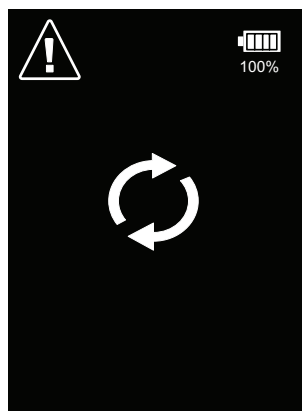

Fig. 16: Sensor clearing message display
straight off the socket (see Fig. 16). Do not twist the sensor while removing.
- Reseat the sensor by aligning the keyway notch in the sensor with the raised keyway on the sensor socket holder (see Fig. 16).
- Remove the old sensor by pulling the sensor straight off the socket (see Fig. 16). Do not twist the sensor while removing.
- Remove the new sensor (which includes new tip and filter) from its packaging and seat the sensor by aligning the keyway notch in the sensor with the raised keyway on the sensor socket holder (see Fig. 16).